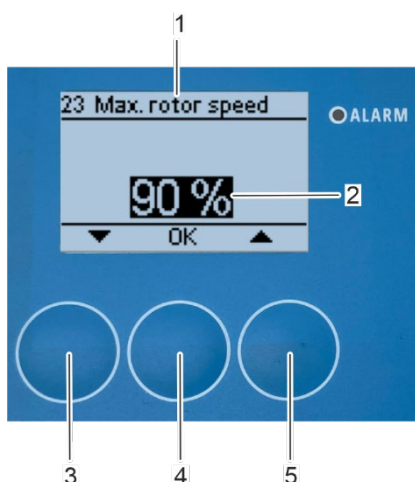

Fig. 131: Set maximum rotor speed
⇒ The "23 Max. rotor speed" submenu appears on the display (Fig. 131/1).
3. Set the maximum rotor speed (Fig. 131/2) with the arrow keys [up] (Fig. 131/5) and [down] (Fig. 131/3).
4. Confirm the selection with [OK] (Fig. 131/4).